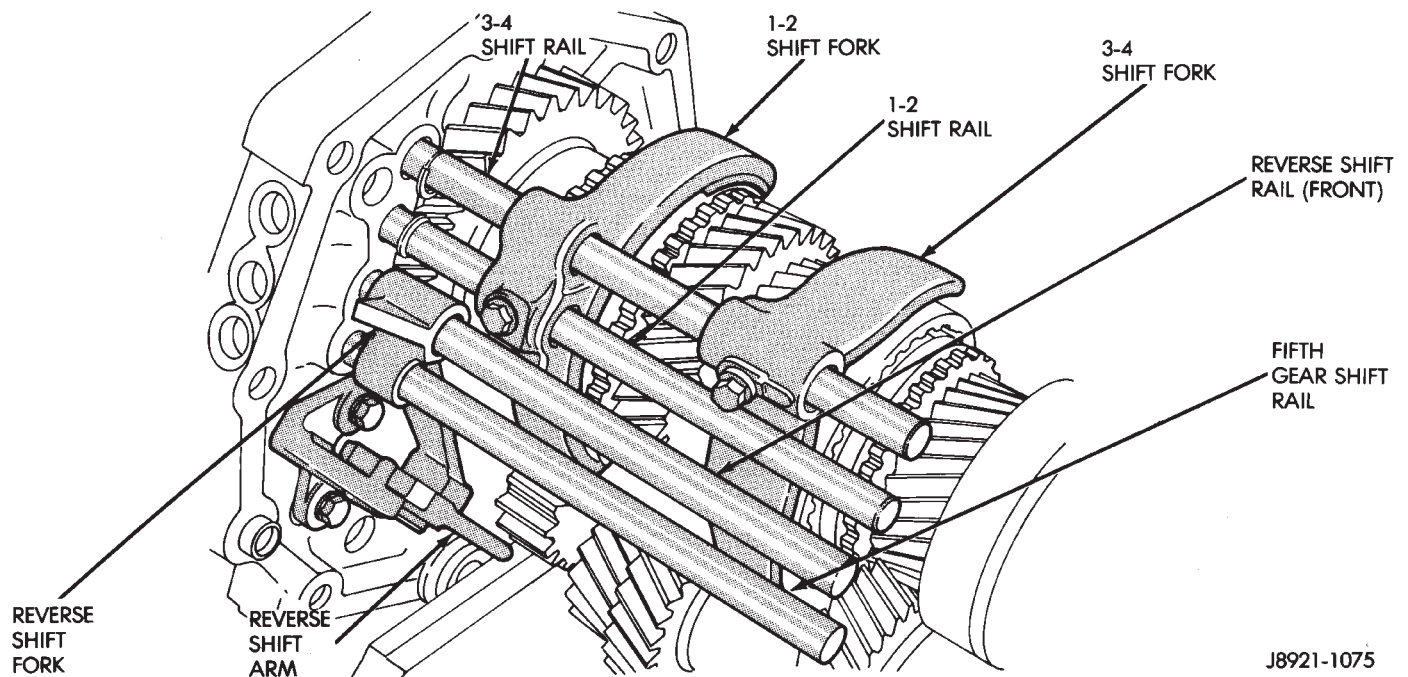

Fig. 67 Shift Rail Identification
- (19) Remove the fifth gear shift rail (Fig. 67).